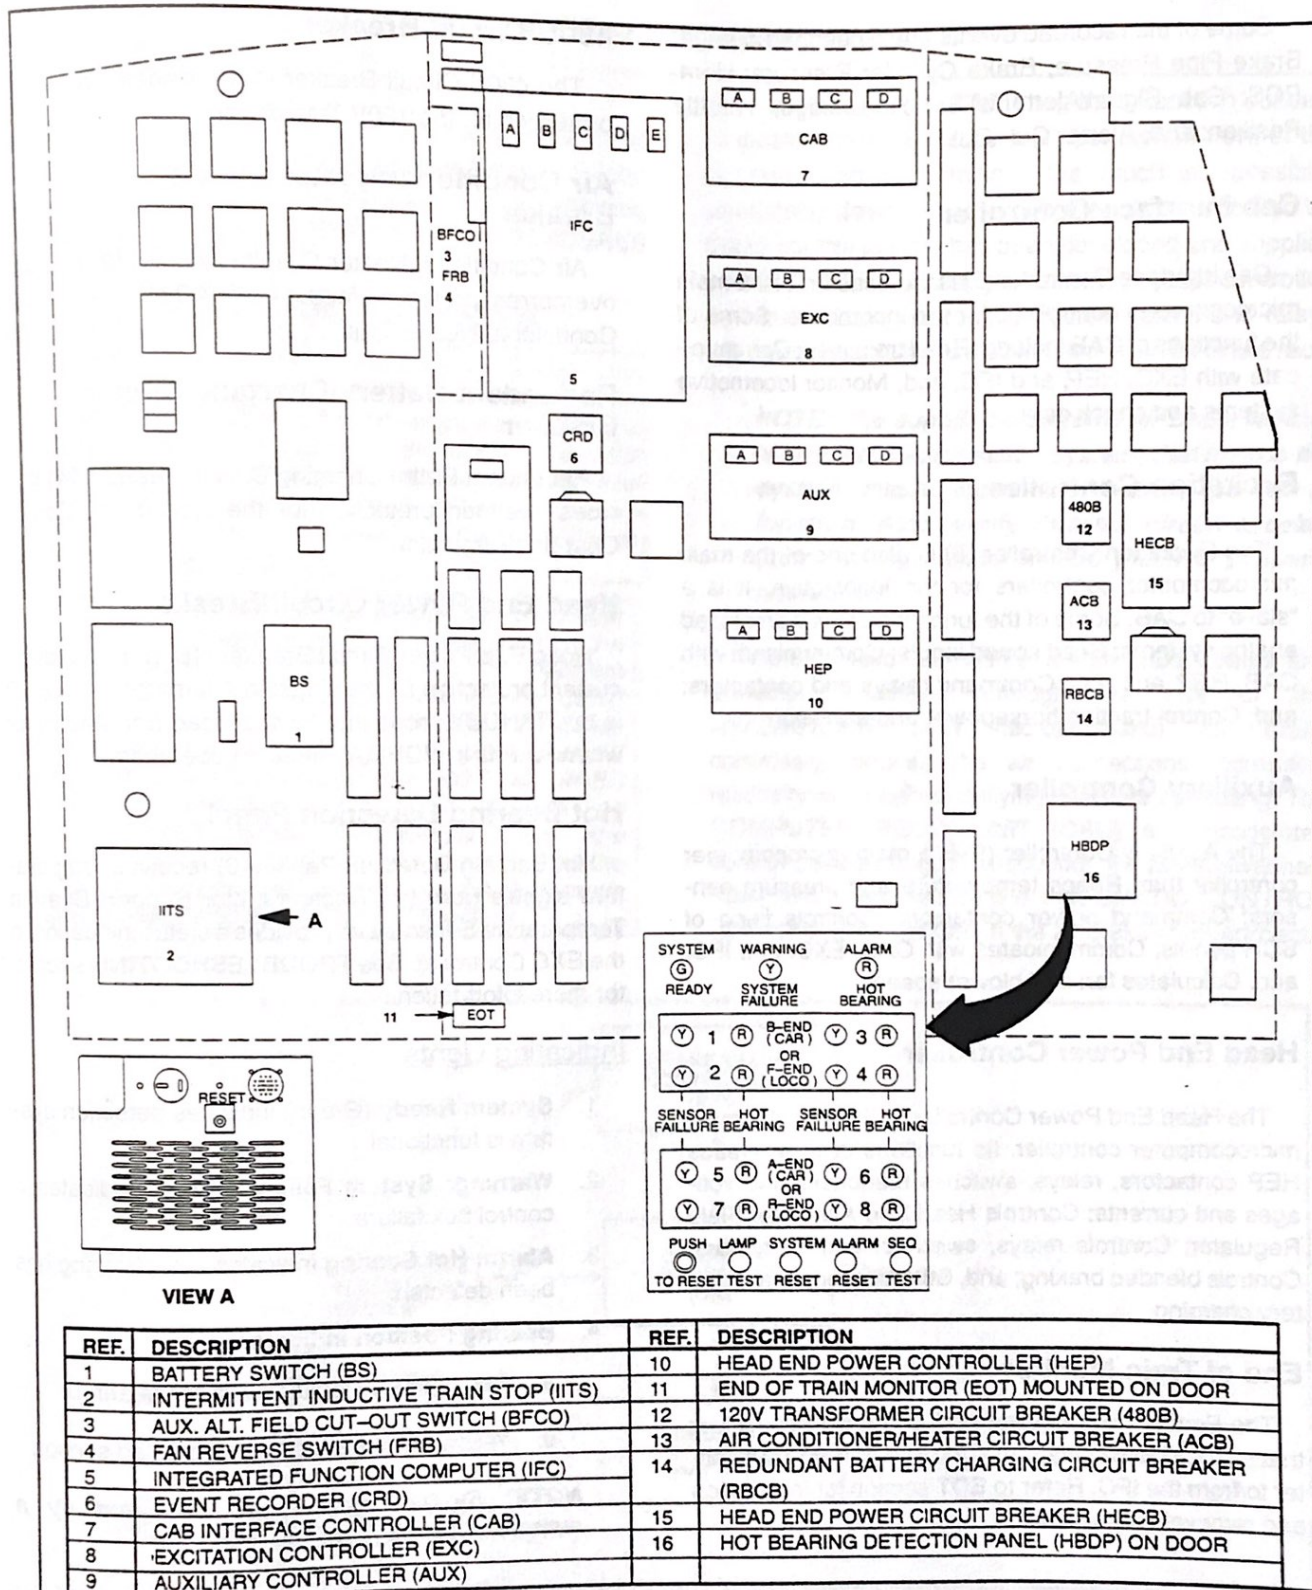

FIG. 13. CONTROL AREA 1 - CONTROL LOCKER AT THE REAR END OF THE OPERATING COMPARTMENT. E-42723.
**NOTE:** Numbers in parentheses ( ) refer to Items found on Figure 13 of this publication unless noted otherwise.